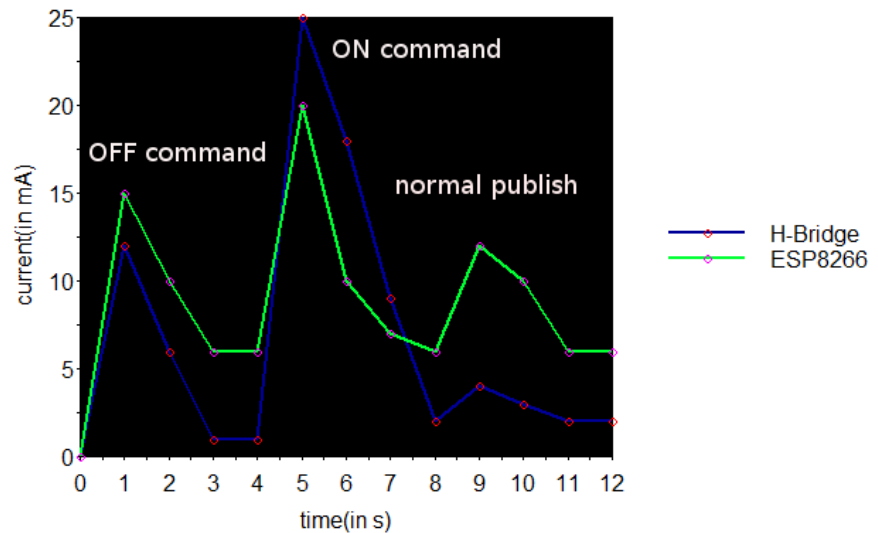

Figure 3: Breakup
- A graph showing the breakup between the average current consumed by the H-bridge(theoretical) and the ESP8266 module.Refer figure 3